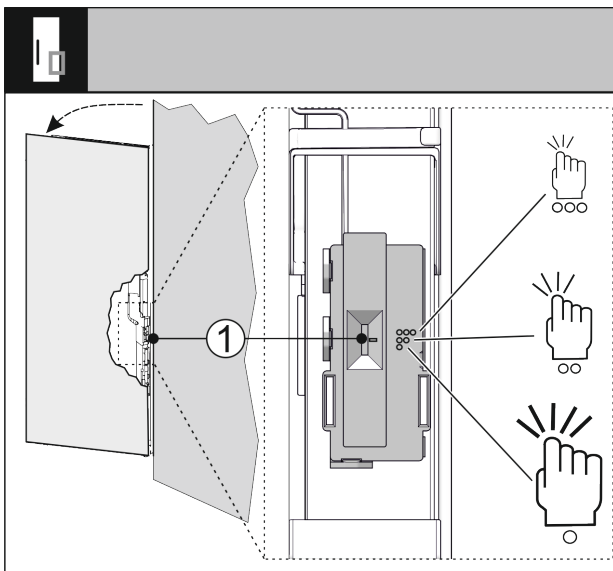

Fig. 71
You can adjust the sensitivity of the knocking sensor with a switch Fig. 71 (1). The switch is on the hinge side on the lower third of the door.
- ▶ Slide the switch Fig. 71 (1) to the desired switch position.